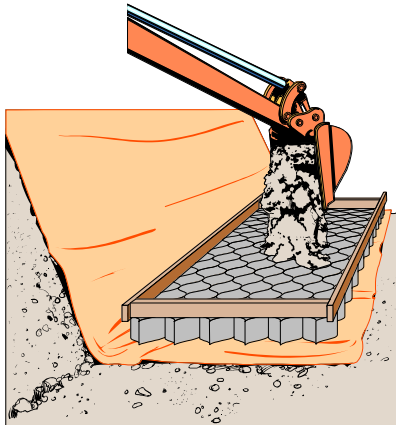
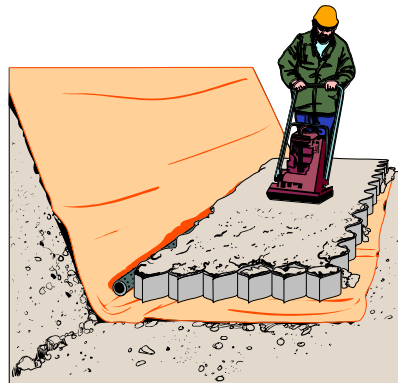
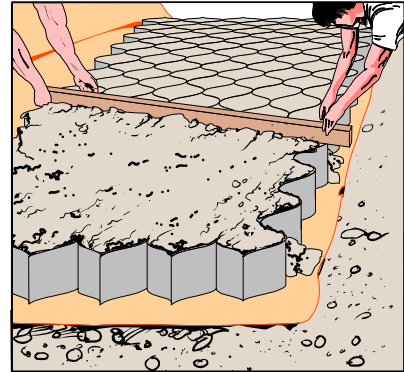

Figure 5 Placing Infill
Figure 6 Compacting Infill
Figure 7 Leveling Infill
- Typical infilling, compaction and leveling procedures are shown below and apply to all Geoweb® layers. See Figure 5, Figure 6 and Figure 7.